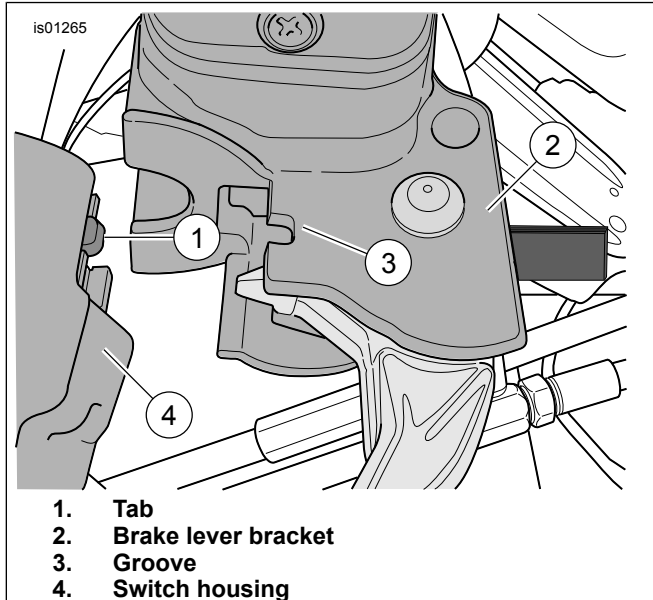

Figure 2. Brake Lever Bracket to Switch Housing
4. See Figure 2. Position the brake lever/master cylinder assembly inboard of the switch housing (4) assembly, engaging the tab (1) on the lower switch housing in the groove (3) at the top of the brake lever bracket (2).
5. Obtain the **new** screws (3) and flat washers (4) from the kit. Place a washer onto the threads of each screw. Align the holes in the **new** handlebar clamp with those in the master cylinder housing, and start the two screws into the threaded holes.